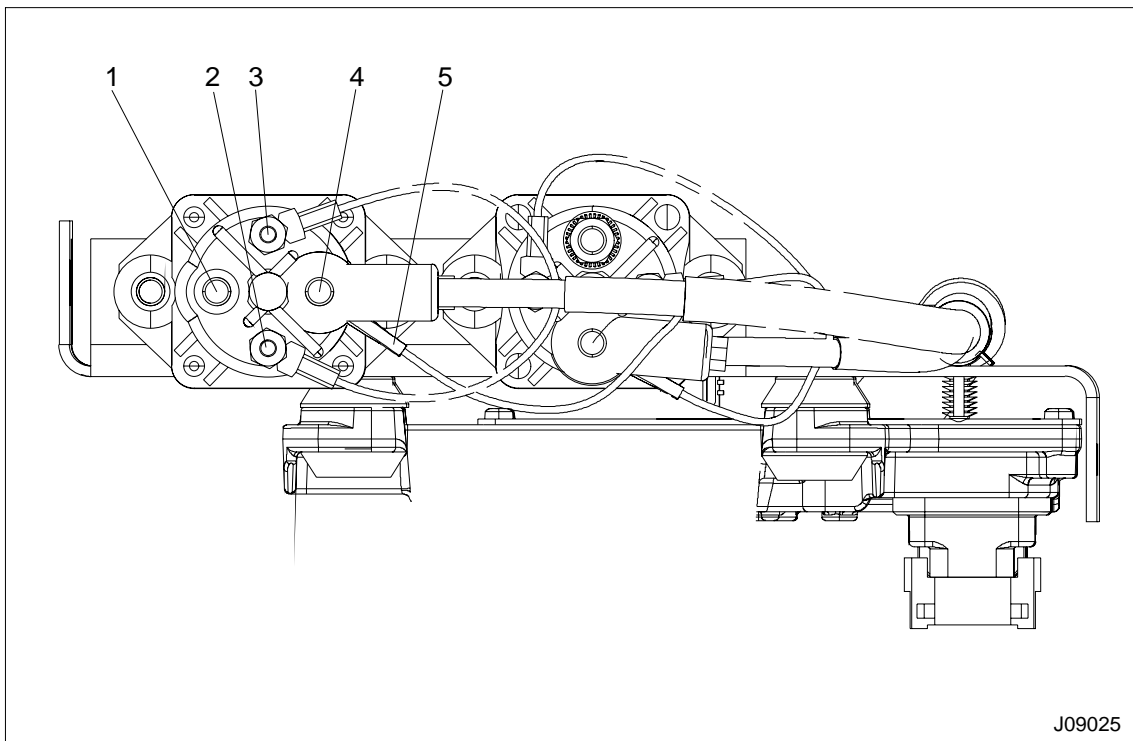

Figure 509 Intake air heater relay wiring connections
4. Connect battery connection to post 1 (Figure 509) and tighten nut.
5. Connect ground connection to post 2 (Figure 509) and tighten nut.
6. Secure the intake air heater relay main connection post 3 (Figure 509) and tighten nut.
7. Connect the intake air heater relay main power connection post 4 (Figure 509) and tighten nut.
8. Connect diagnostic lead to diagnostic connection post 4 (Figure 509) and tighten nut.